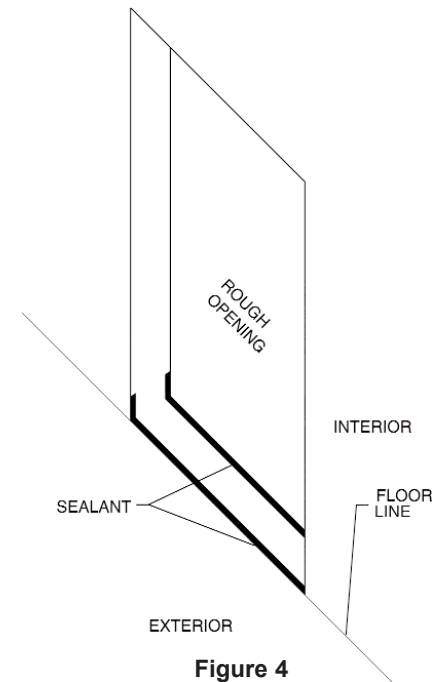

Figure 4
4. Apply a 1" continuous bead of sealant (pumpable caulk or sealant tape) on the floor so that the outside edges (both sides) of the frame sill will be sealed to the floor extending about 6" up the frame/jamb, see figure 4. Before using sealant, see caution in item 5.